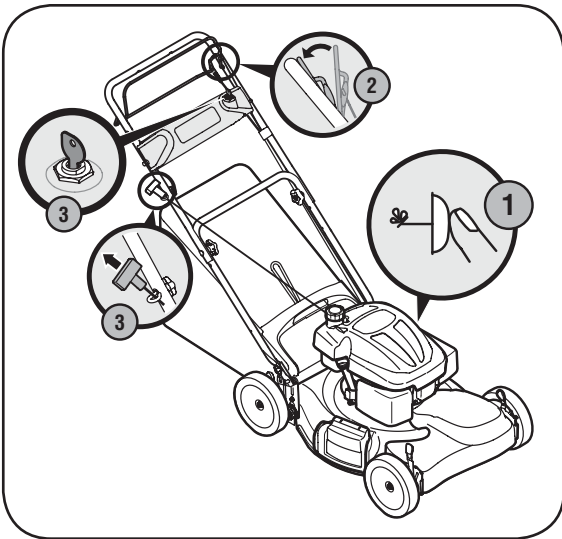

Figure 3-5 - Models with a manual primer.
1. Push the primer 3 times. Wait about two seconds between each push. See Figure 3-5. In temperature below 10° C (50° F), prime 5 times. After the engine is warmed up, one prime may be needed for all temperatures.
Pull the starter grip lightly until resistance is felt, then pull rapidly to overcome compression, prevent kickback and start engine. Repeat if necessary. See Figure 3-5. *Do not allow the starter grip to snap back against the engine. Return it gently to prevent damage to the starter.*
Turn ignition key to the right to start the engine. Release the key after the engine starts. See Figure 3-5.
1. Release the blade control handle. See Figure 3-5.